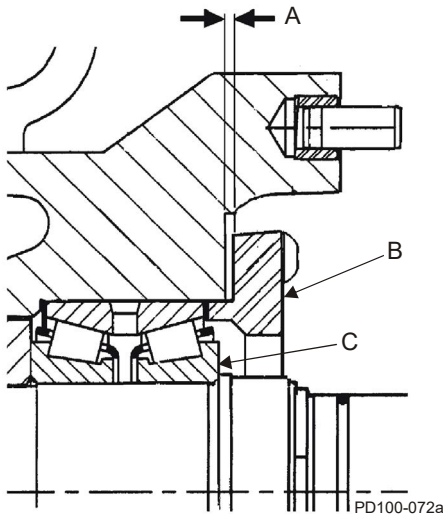

Figure 52 - Bearing Retainer Clearance
5. The bearing retainer must rest firmly against the bearing. Leave a 0.010 to 0.050 in (0.25 to 1.25 mm) clearance (Figure 52, item A) between the back of the bearing retainer (item B) and the front of the gear case (item C). If this clearance is not met, place shims between the bearing and the retainer.